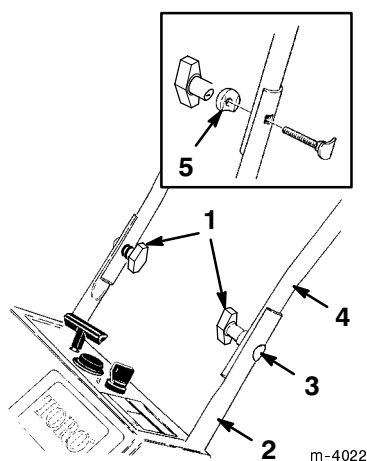

Figure 2
1. Position the ends of the upper handle section on the inside of the lower handle section and align the holes (Fig. 2).
Note: Make sure that you properly align the oval head bolts and the curved washers (See inset in Fig. 2).
2. Secure the upper handle section to the lower handle section using oval head bolts, curved washers, and knobs (Fig. 2).